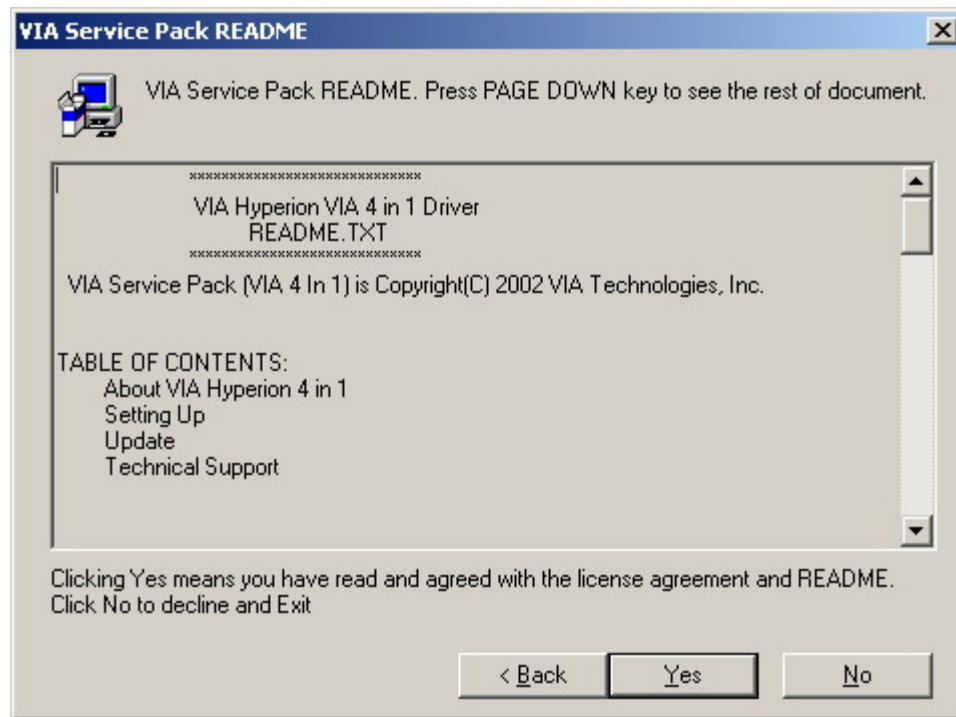

Figure 6-4: Readme Information
Step 5: The **"Readme"** in **Figure 6-4** appears. Click **"NEXT"** to continue the installation.